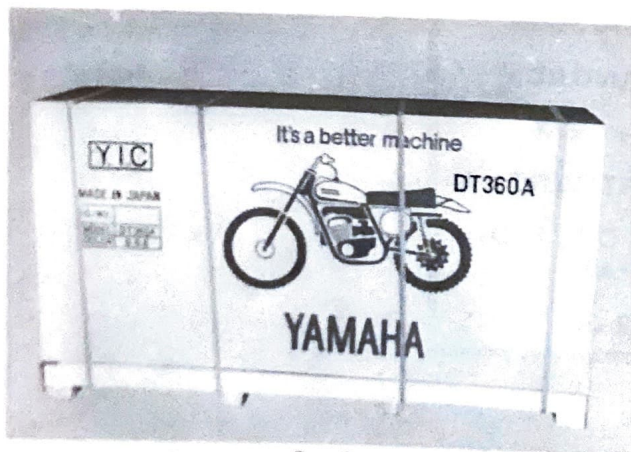

Fig. 2
1. The DT250A/360A is put in a cardboard crate. To unpack, cut vinyl bands wound around the cardboard crate using a cutter, and then take it out. (Fig. 2)